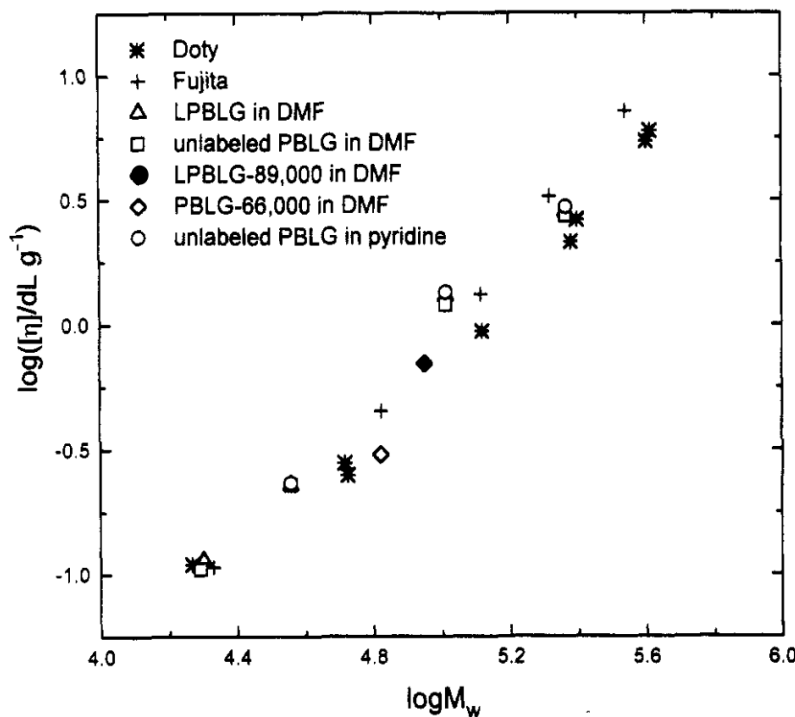

Figure 11
If the intrinsic viscosity and molecular weights are determined for a series of polymers, a Mark-Houwink-Sakurada plot can be built connecting molecular weights to intrinsic viscosity for unknown polymers of the same type, as shown in Figure 11. The  $K$  and  $a$  parameters have been determined for many polymers. The  $a$  parameter is particularly illuminating, as it gives an indication of the shape of stiffness of polymers. For example,  $a = 0.5$  signifies a polymer for which intramolecular attractions between the chain segments exactly cancel the natural tendency of the polymer to expand in order to avoid two segments separated by a long distance along the backbone having to occupy the exact same space. The  $a$  value associated with Figure 11 is considerably higher than 0.8, indicating chain stiffness.
- 4) Figure 11 is by Bu et al. 10.1021/ma00101a027